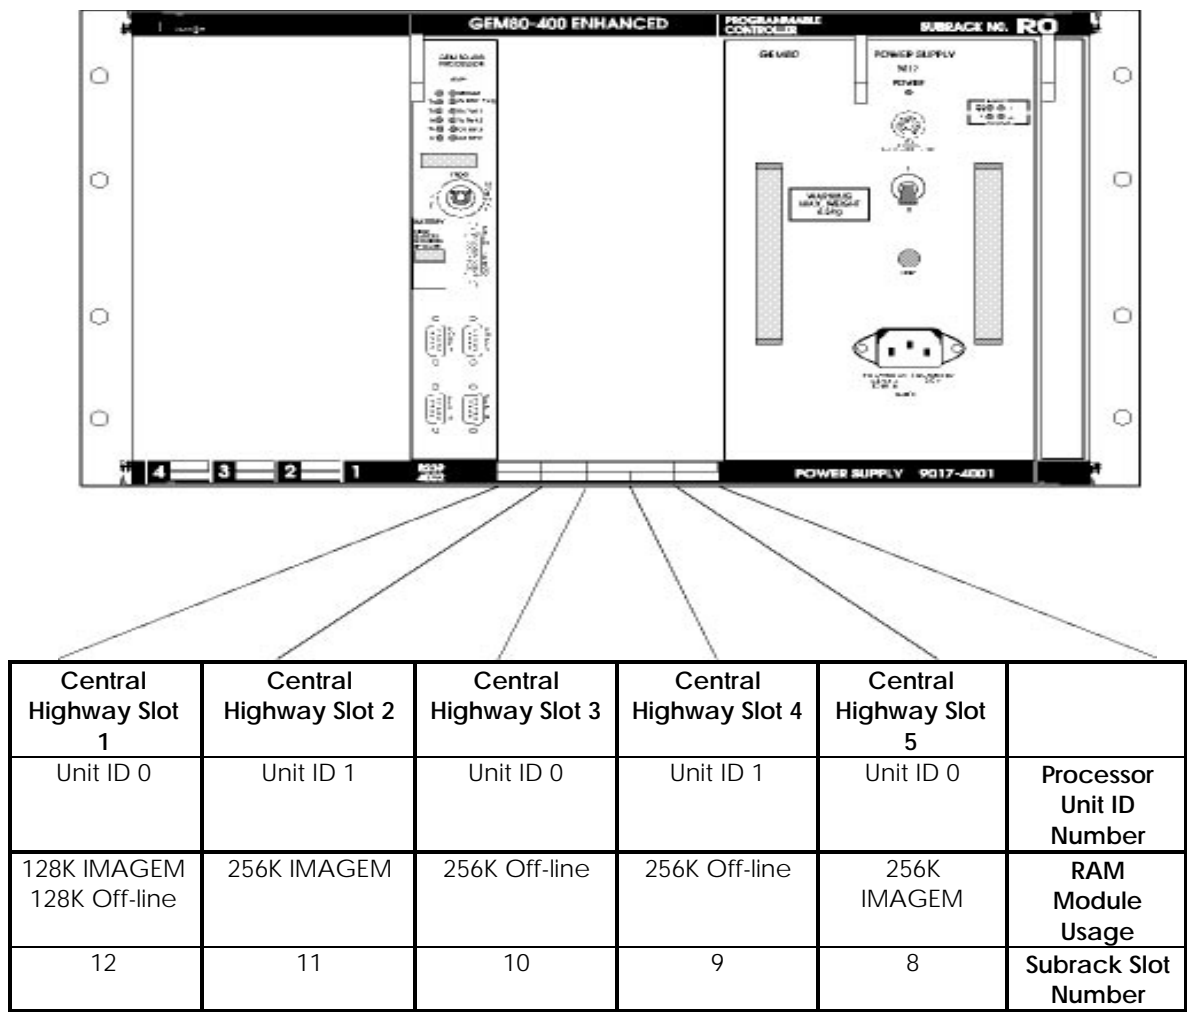

Figure 5.1 - Default Configuration of a GEM 80-400 Enhanced Controller
Figure 5.1 defines how a system, with the default configuration, would use modules.
The factory default controller subrack supplies each slot occupied by a Central Highway Processor Module with a "Unit ID" the value of which is indicated by Figure 5.1.
1. The default configuration of a GEM80-400 Enhanced system is given by Figure 5.1
Referring to Figure 5.1: